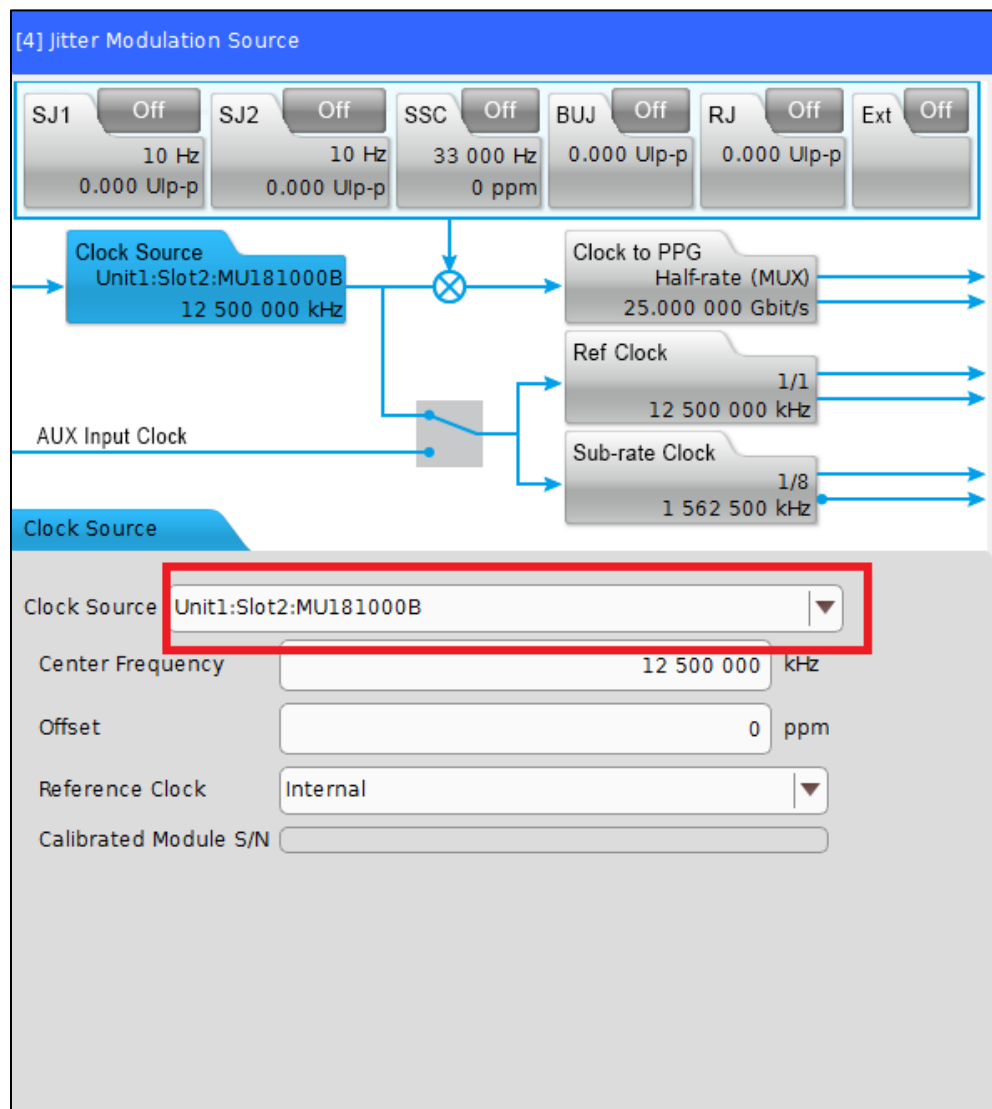

FIGURE 41. JITTER CLOCK SOURCE SETTING
- b) Go to Jitter tab and set Clock Source to “Unit1:Slot2:MU181000B”. See Figure 41.